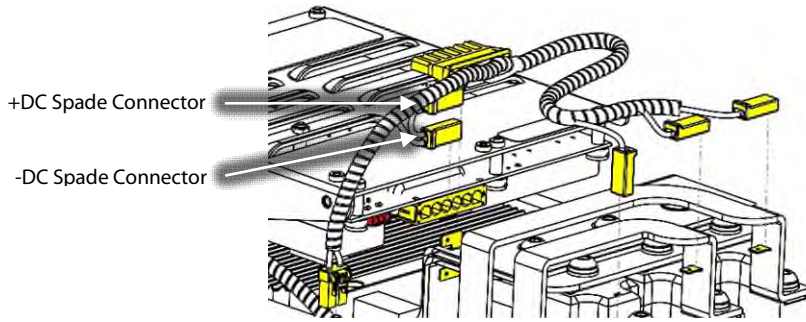

Figure 12 - DC Spade Connector Removal (All Other TTS/TGS/TTH/TGH Models)
- b. Disconnect the -DC and +DC spade terminals from the DC bus bar. Refer to Figure 12 - DC Spade Connector Removal (All Other TTS/TGS/TTH/TGH Models).